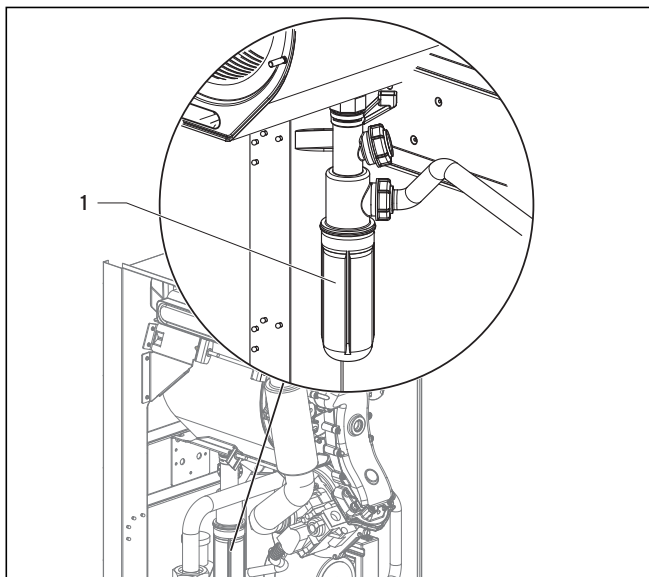

Fig. 5.2 Filling the siphon
- Screw off the bottom (1) of the condensate siphon (fig. 5.2).